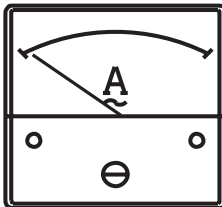

Figure 31. AC Ammeter (No Load)
9. The **AC ammeter** (Figure 31) will indicate **zero amps** with no load applied. When a load is applied, the ammeter will indicate the amount of current that the load is drawing from the generator.